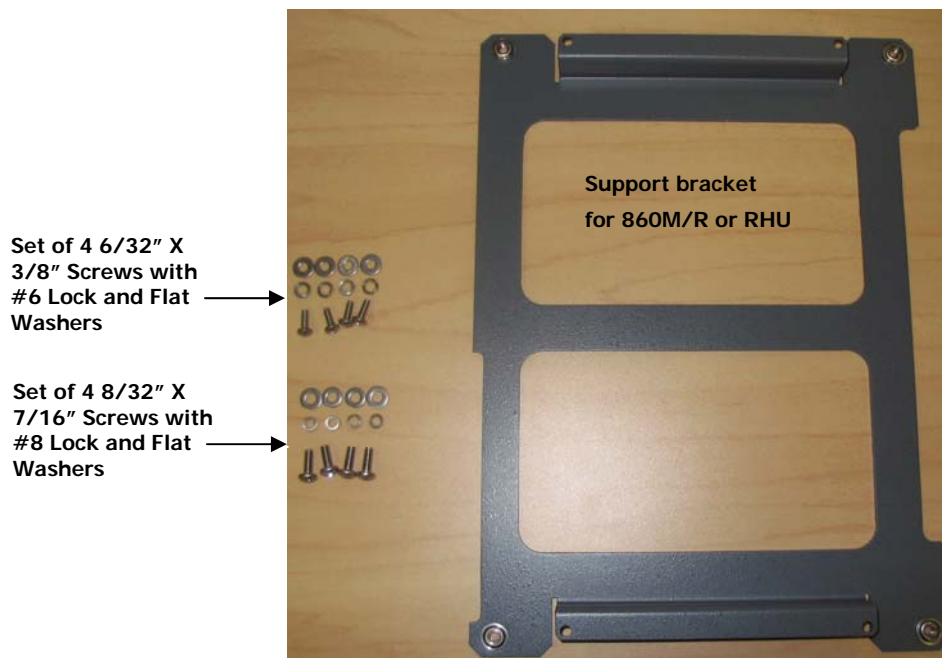

Figure 3-6: BRKT-RHU-800-STK Contents
1. The **BRKT-RHU-800-STK** mounting accessory as described in **Section 3.4.2 - Mounting and Accessory Kits** is to be ordered. The kit contents are shown in **Figure 3-6: BRKT-RHU-800-STK Contents**